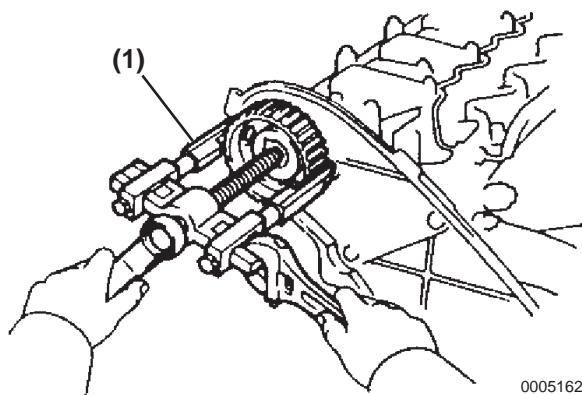

Figure 5-164
8. Remove the No. 1 timing pulley using a gear puller (**Figure 5-164, (1)**).